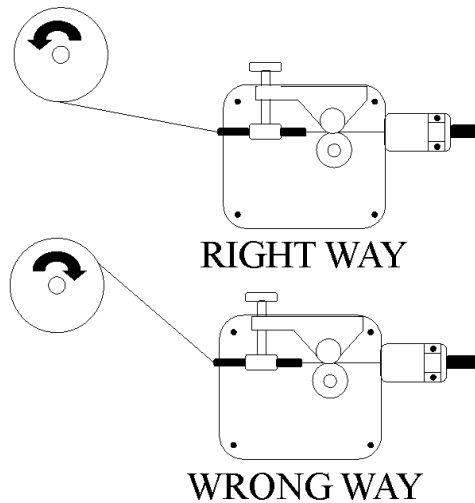

Figure 4
- 5.2.4 Place the spool on the spool hub so the wire will pull off the bottom of the spool. The welding wire should always come off the bottom of the spool into the drive mechanism (Figure 4).